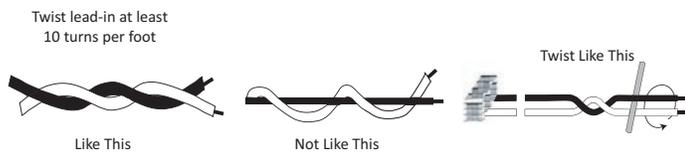

Figure 69. Wire Twist Lead-ins
7. Twist loose tails of lead-in wires tightly, approximately ten times per foot. See Figure 69.